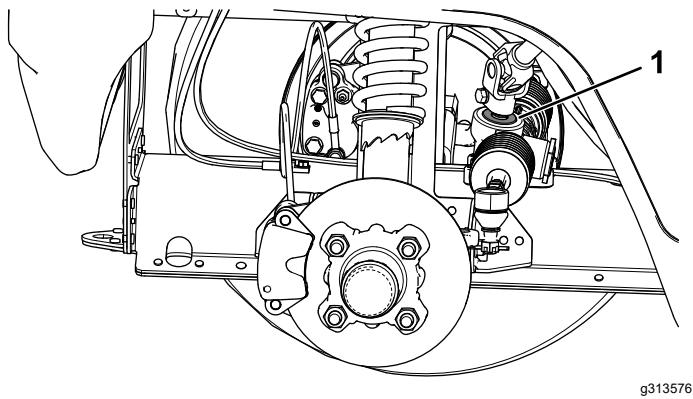

Figure 46
- **Important:** Inspect the condition and security of the pinion-shaft seal (Figure 46).